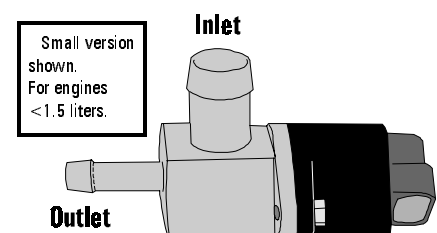

Figure 2. Air Control valve
- 1. Cut the air pump delivery hose or pipe to accept the air control valve. Be sure to install the valve pointing in the right direction (see Figure 2 for inlet and outlet). The valve should not rub or vibrate against any part of the engine or body.
3. Install a new hose from the 90° fitting to the air control valve. Be sure to install the valve pointing in the right direction (see Figure 2 for inlet and outlet). Secure the hose with hose clamps. The valve should not rub or vibrate against any part of the vehicle or engine. It can be tie-wrapped to a hose, wire harness or body part. The air control valve should not touch or be directly exposed to heat from the exhaust manifold or exhaust pipe.